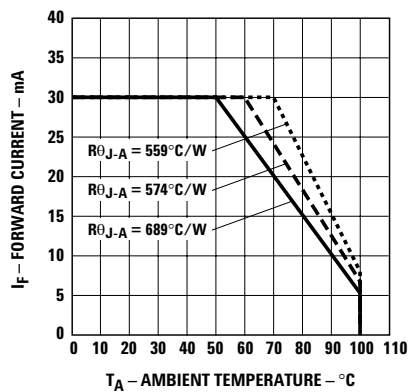

Figure 5. Maximum forward dc current vs. ambient temperature derating based on T_J MAX. = 110°C.
3. Derate linearly as shown in Figure 5.